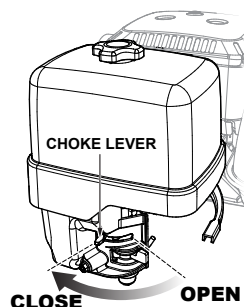

Figure 19. Choke Lever (CLOSED)
2. If starting a cold engine, place the choke lever (Figure 19) in the **CLOSED** position.